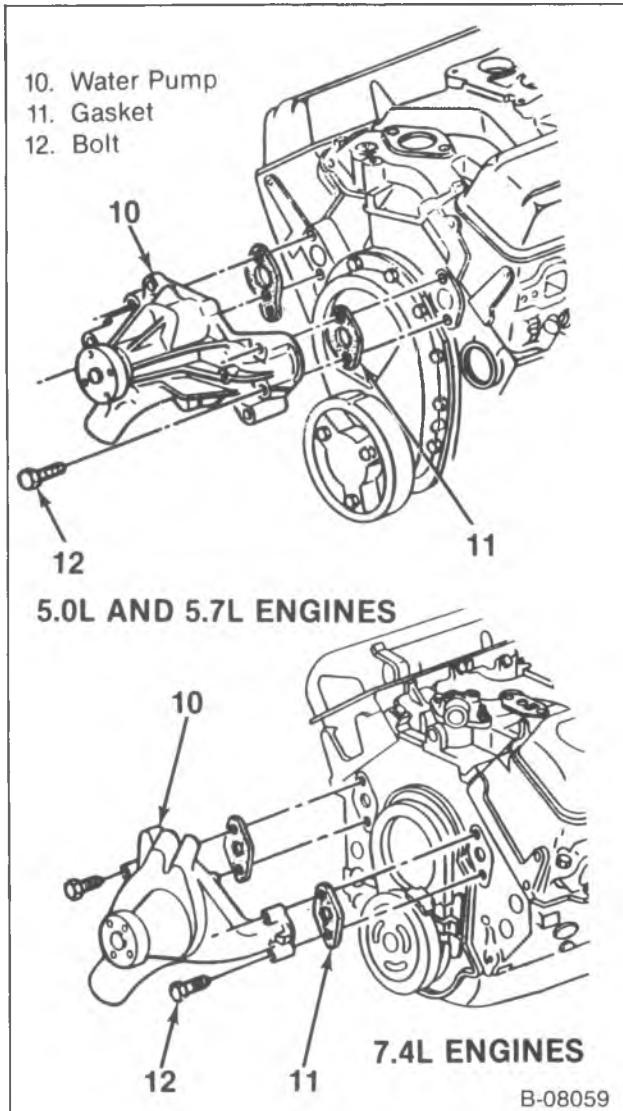

Figure 82—Water Pumps and Components
**Install or Connect (Figure 82)**
1. Gaskets (11).
2. Water pump (10).
3. Bolts (12).
- Bolts (12) to 40 N·m (30 ft. lbs.).